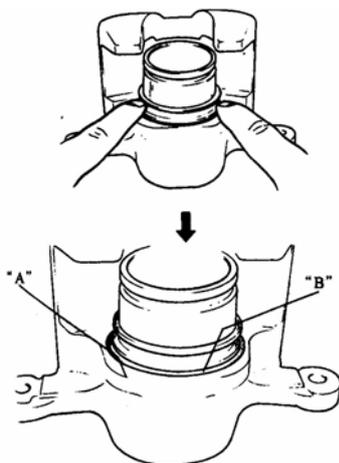

FIG.16-30 “B” surface of cover dust and “A” surface of cylinder body are on the same plane
(2) Install boot into cylinder groove using hand. (FIG.16-30)